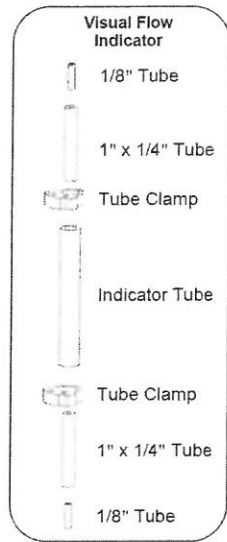

Figure 3.7
3. Assemble the Visual Flow Indicator (required for NSF listing) on the outlet side of the rinse dispensing pump by inserting the 1/8" tube fully into one of the two 1" sections of 1/4" OD x 1/8" ID PVC tubing provided (see Figure 3.7)